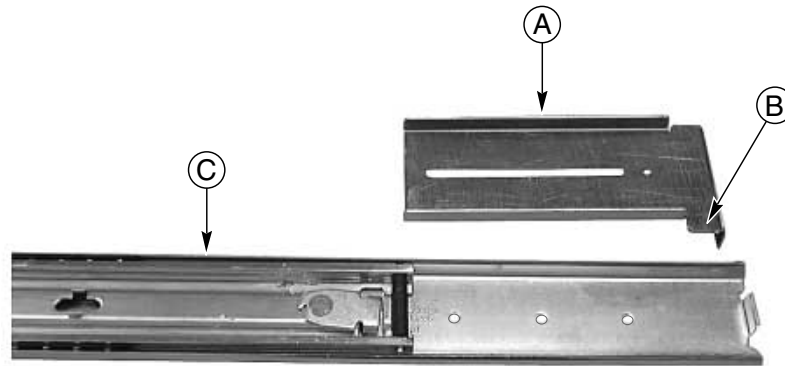

Figure 6 FR/RL Bracket Orientation
3. Place one of the brackets labeled FR/RL on the outside of the outer member. The lower tongue of the bracket must be oriented correctly. Item B in Figure 6 shows the correct orientation.
Figure 6 shows how the FR/RL bracket is oriented and how the slide rail assembly is extended.